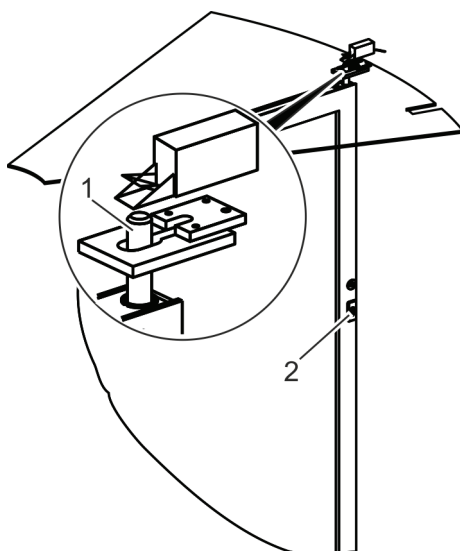

Fig. 40 Floor locking device (example)
i With the foldable wings, the rod locking device of two wings must be aligned with the locking plate (Fig. 40).
Align the rod locking device (Fig. 40/1) in the wing with the locking plate in the ceiling.
2. Lock the wing using the square key (Fig. 40/2).
3. Lock the rod locking device using the lock cylinder (Fig. 40/2) with two full revolutions.